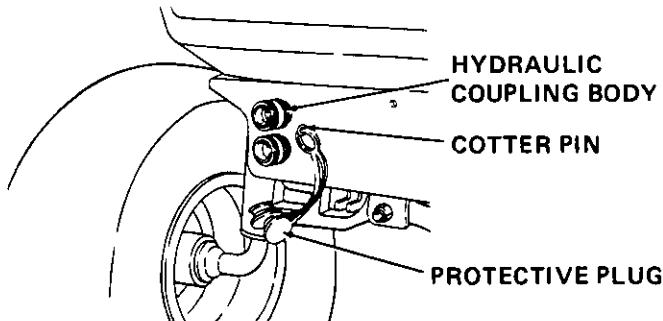

Figure 28
11. Position hydraulic coupling bodies into openings and secure with external retaining rings placed in groove of hydraulic coupling body. Refer to Figure 28.
12. Secure the two front outlet hoses using cable ties (U).
13. Attach two protective plugs (V) to the cotter pin (W).
14. Secure cotter pin to tractor frame as shown in Figure 28.